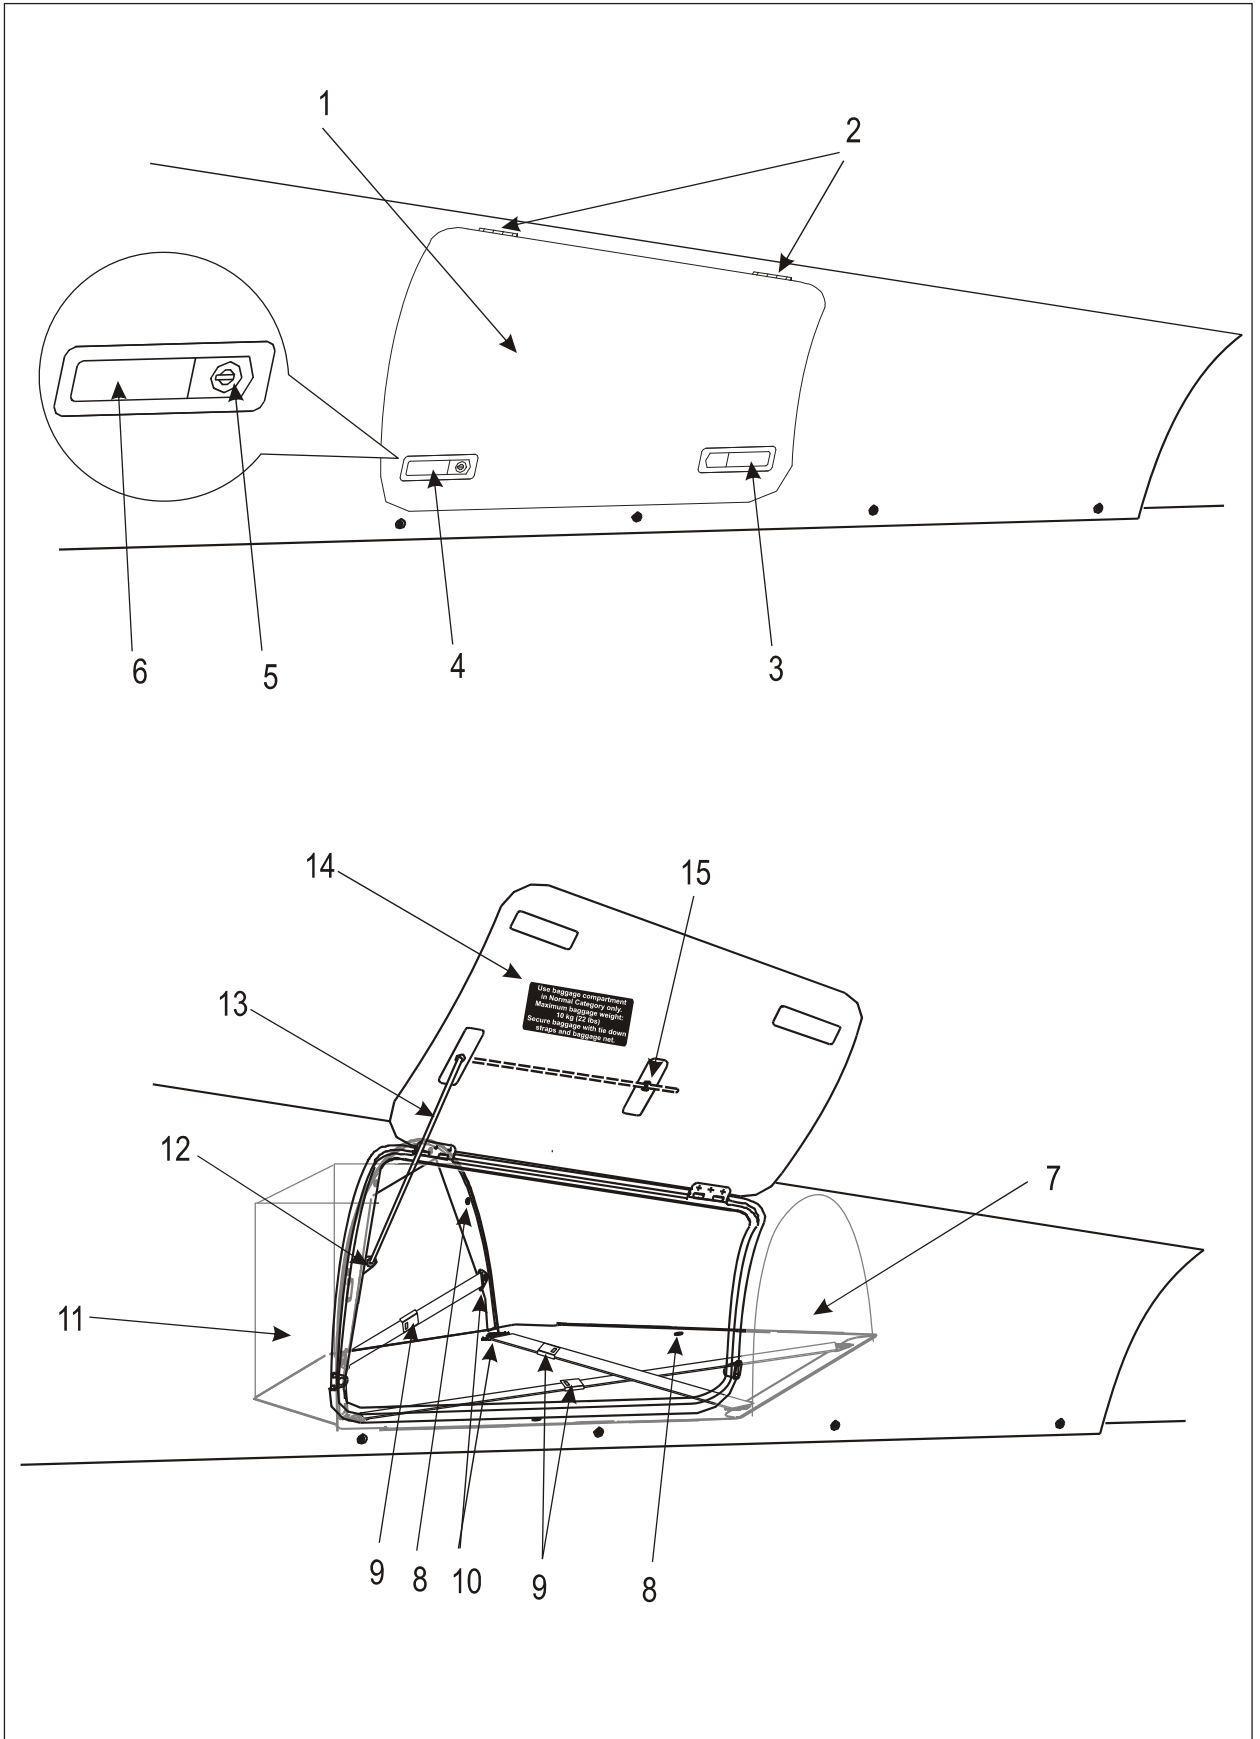

Figure 5, Baggage Compartment
The compartment consists of a main (7, Figure 5) and a front partition (11). It is accessible by a door (1) from the left aircraft outside. The door is hinged (2) on the upper edge and latched by two locks (3, 4) on the lower edge. The front lock is a key lock (4). In the open position the door can be hold in place by a support rod (13) which is plugged into a hole (12) at the forward edge of the door frame. This rod is fastened by a clamp (15) at the inside of the door when not in use. The inside of the door also carries the baggage compartment placard (14).